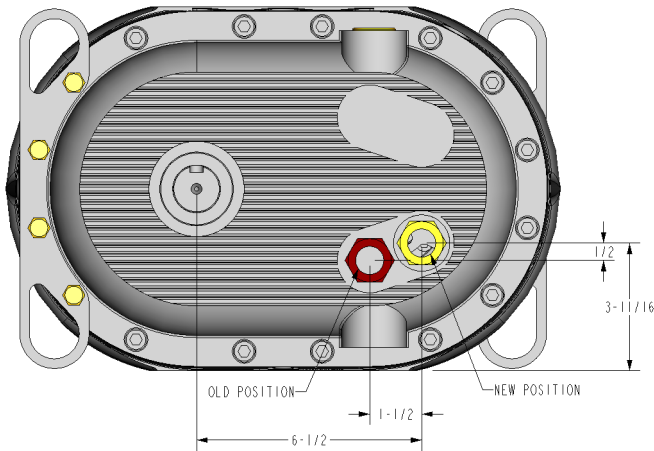

Figure 1: New Sight Glass Position 510
Because of this change the sight glass, used to determine oil level, has been repositioned. The new location of the sight glass is raised up 1/2" for both model 510 and 614 blowers, 1-1/2" further from the drive shaft for model 510 blowers, and 1-1/2" closer to the drive shaft for model 614 blowers (see figure 1 and 2).
- a) Using a 1-3/4" drill or hole-saw, cut a hole in the belt housing where the blower meets the frame, in the location specified in figure 1 or 2 depending on your blower model.